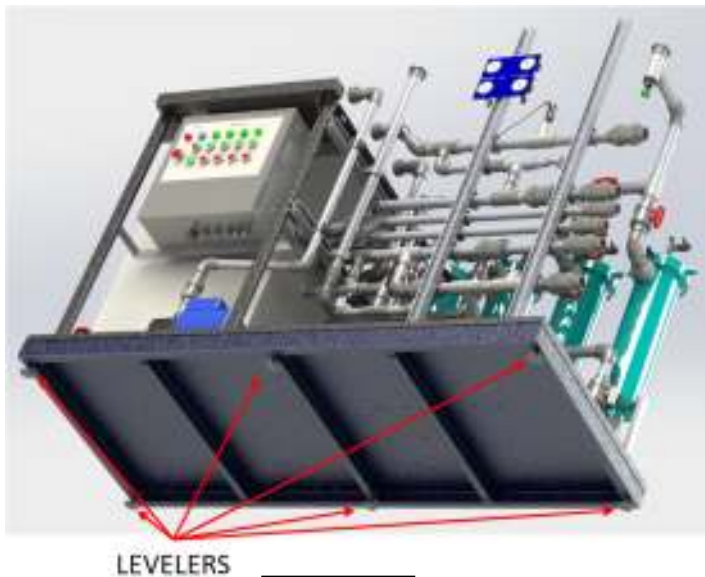

FIGURE 4
Prior to assembly the base must be properly leveled and supported at six (6) points. Figure 4 shows the leveler location. A standard spirit or bubble level will provide sufficient accuracy for leveling the unit.